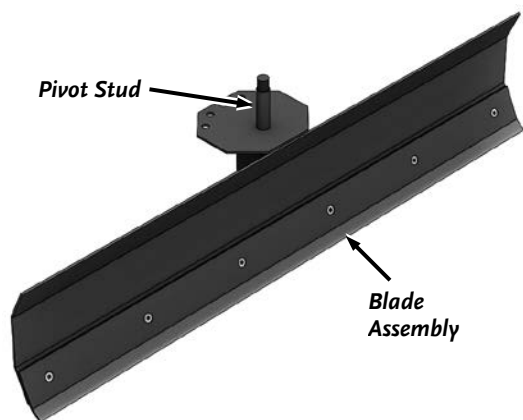

Figure 5
2. Position the Blade Assembly as shown and have a helper hold it in position for the next step (**Figure 5**).